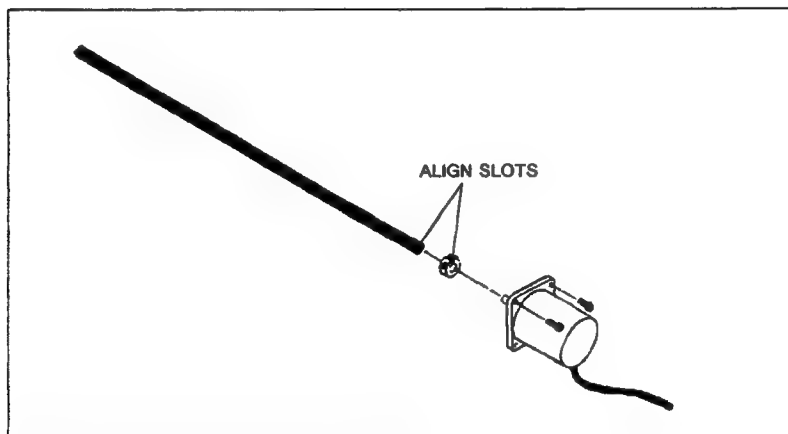

Figure 6-7. Stepper Motor and Shaft
- d. Locate the split collar approximately 2 to 3 mm away from the stepper motor, aligning the slot in the collar with the slot in the drive shaft (see Figure 6-7).